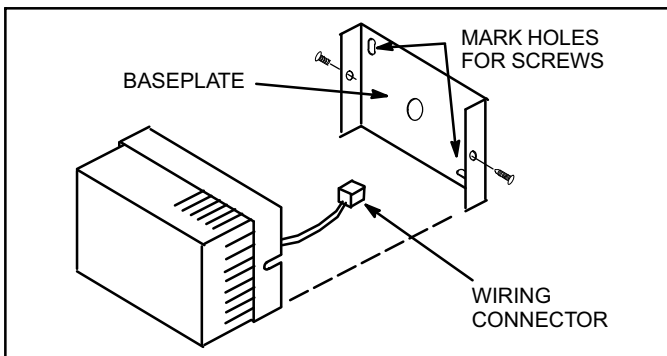

Figure 3. Zone Sensor - 94L61
- Mark holes for screws. See figure 3 or 4. Remove baseplate and drill holes.